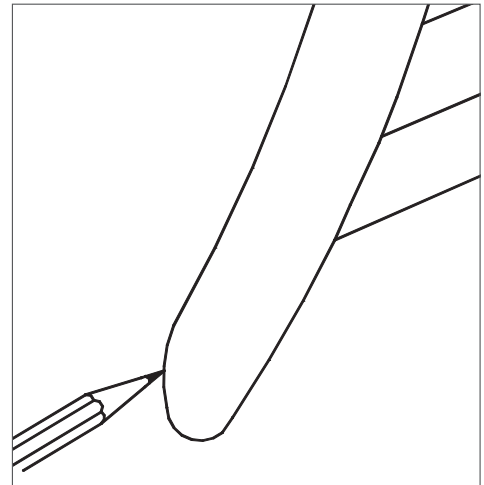

Fig 1.0
- Using a fine pencil, or by gently pressing the rail against the wall, mark the position of both curved legs, see Fig 1.0